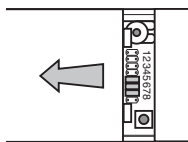

Figure 1
1. Remove battery cover from extender transmitter by pressing on the cover with your thumb, then slide cover off as shown Figure 1.